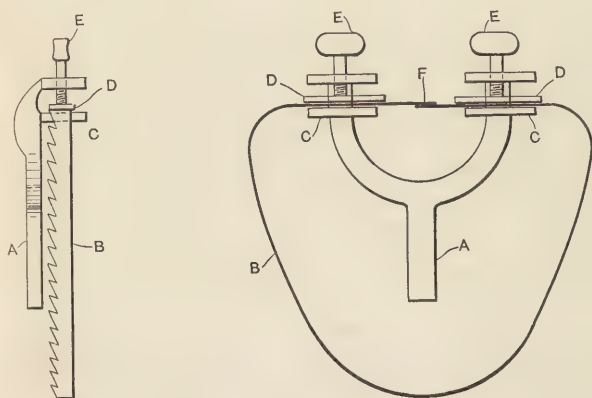

Fig. 5. Brazing a Band Saw.
**Brazing a Small Band Saw.**—This seems an impossible job to any one who has never seen the operation. Make a double clamp for holding the ends of the saw, as shown in Fig. 5, the clamp being held in